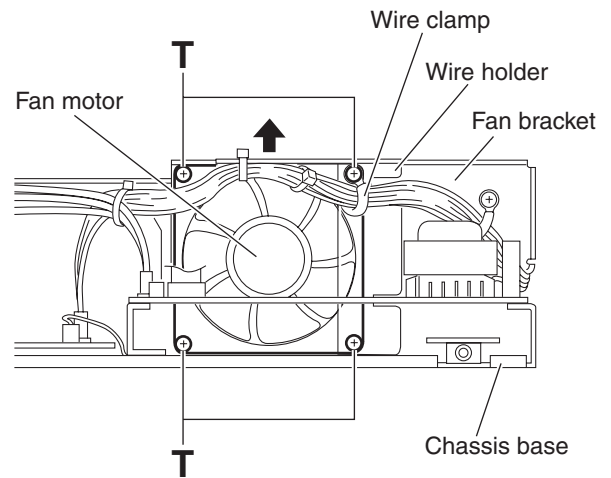

Fig.18
- (3) From the front side of the main body, remove the four screws **T** attaching the fan motor to the fan bracket. (See Fig.18.)
- (4) Take out the fan motor in the direction of the arrow. (See Fig.18.)
- When attaching the screws **T**, attach the wire holder and wire clamp together with them. (See Fig.18.)
- After attaching the fan motor, bundle the wires using the wire clamp. (See Fig.18.)